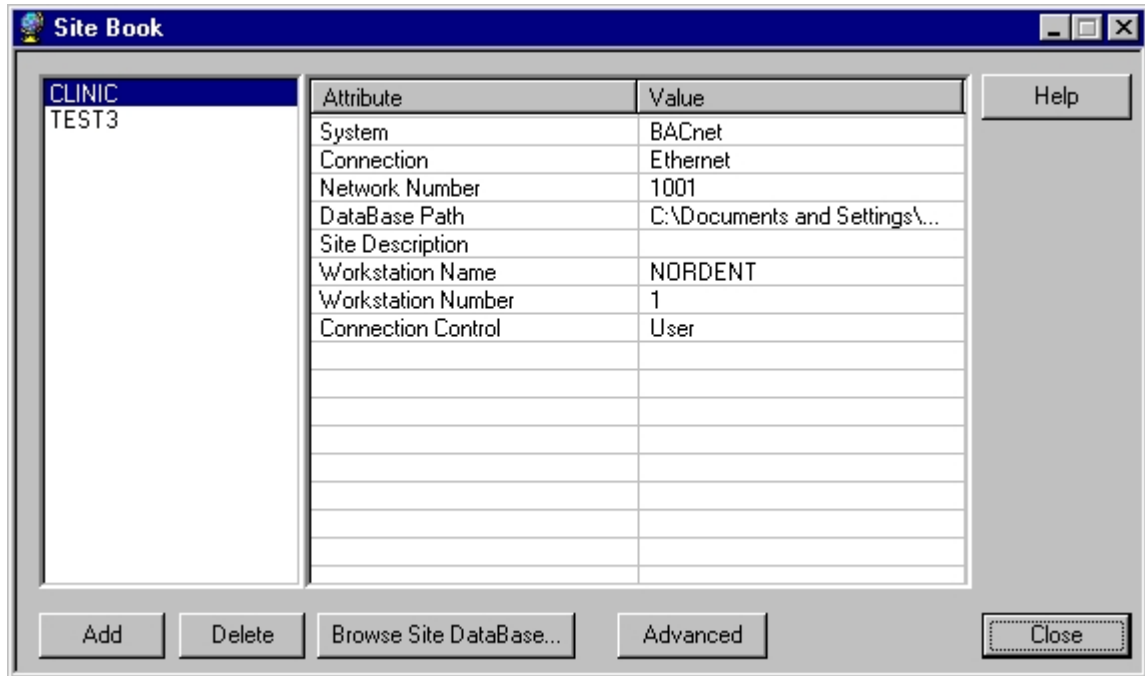

Figure 12-5: Site Book Window
3. Click Directory. The Site Book window appears (Figure 12-5).